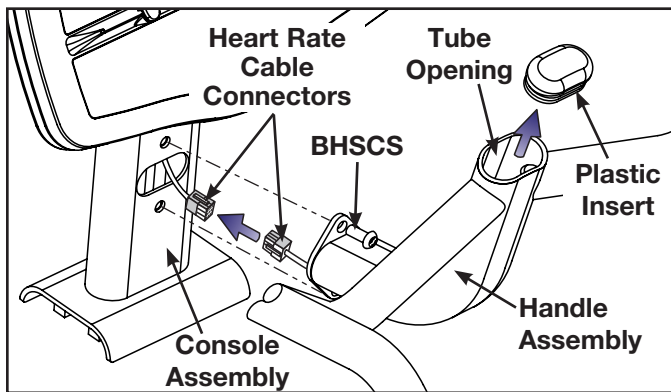

Figure 5
- B. Using a flat head screwdriver, pry off the plastic insert from the hand assembly. See Figure 5.
- C. Using a 7/32" Allen wrench, remove the two BHSCS securing the hand assembly to the console assembly. See Figure 5.
- D. Unplug the heart rate cable connectors. See Figure 5.
- E. Pull the hand assembly heart rate cable up through the tube opening. See Figure 5.
- A. Route the heart rate cable connector down through the tube exiting the bottom. See Figure 5.
- B. Plug the two heart rate cable connectors together. See Figure 5.
- C. Using a 7/32" Allen wrench, attach the two BHSCS removed in step 6C securing the hand assembly to the console assembly. See Figure 5.
- E. Reattach the plastic insert removed in step 6B. See Figure 5.